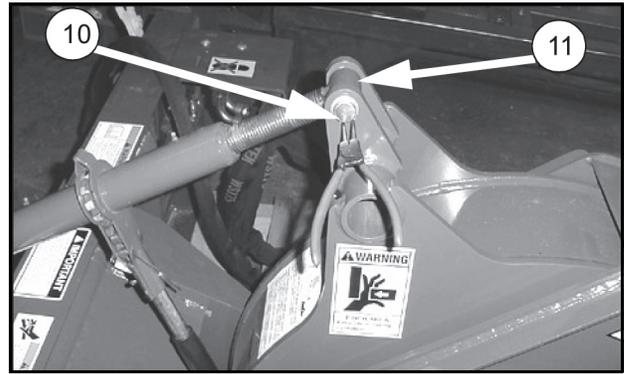

Figure 19.
2. **(MD Only)** Remove the snap rings (10) and pins (11) as shown in Figure 19.